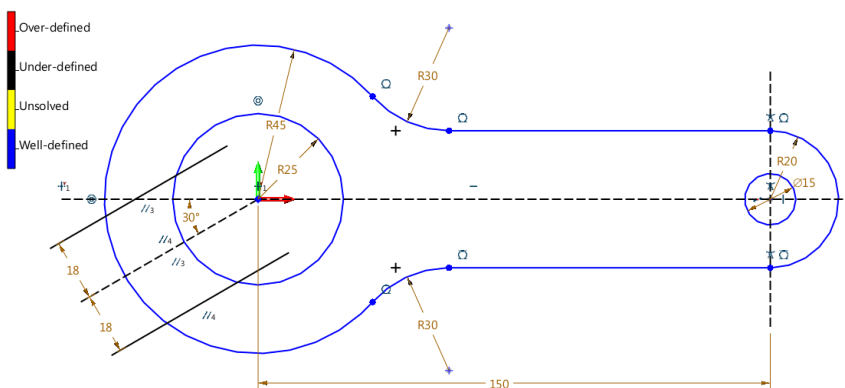

Figure 135 Creating Two Parallel Lines
STEP 09 Create two lines parallel to the line generated in Step 8 with **Offset**. Then, add parallel constraints and offset dimensions to them, as shown in Figure 135.